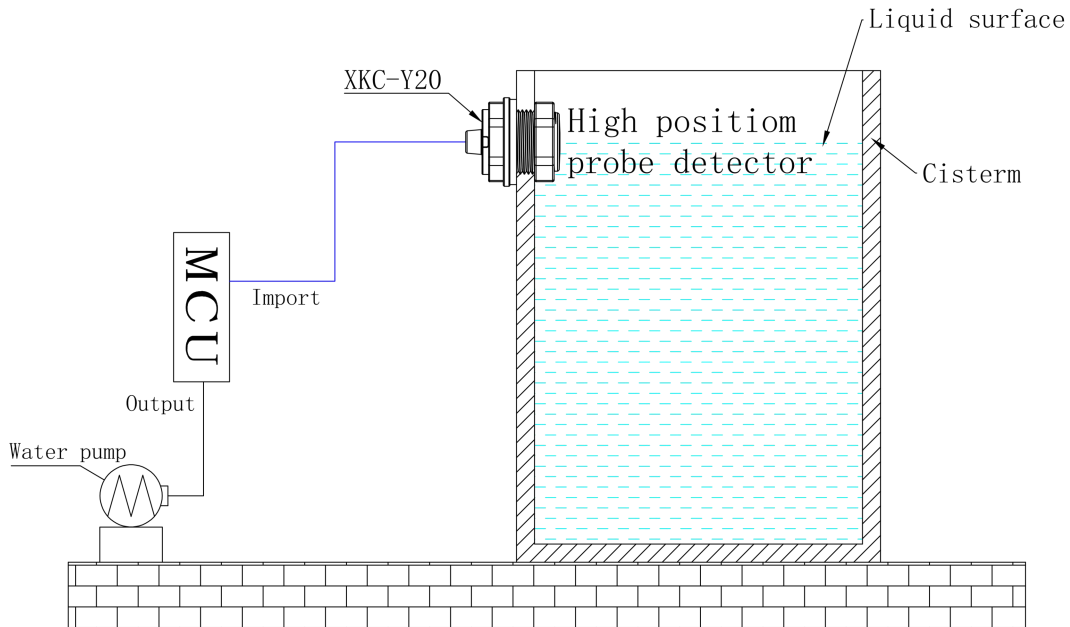

Figure 1 (diagram of one probe installation mode)
1. Fixed the position according to the installation method of FIG. 1, and then immerse the detection liquid in the sensor part.